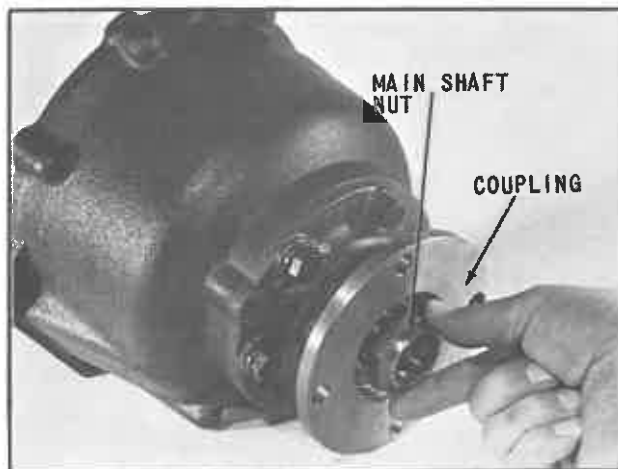

Fig. 30 Installing Coupling and Nut
8. Remove main shaft nut and coupling as shown in (Fig. 30).
27. Assemble the main shaft nut on output shaft (Fig. 30) and tighten to specified torque.